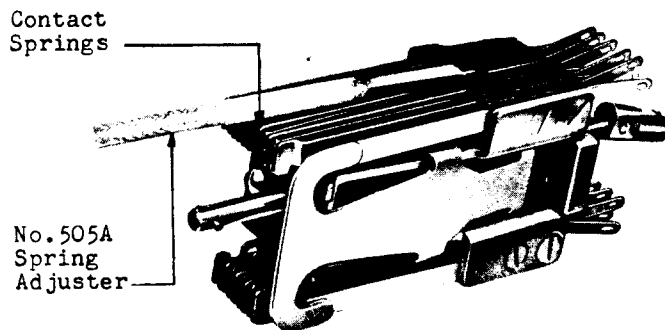
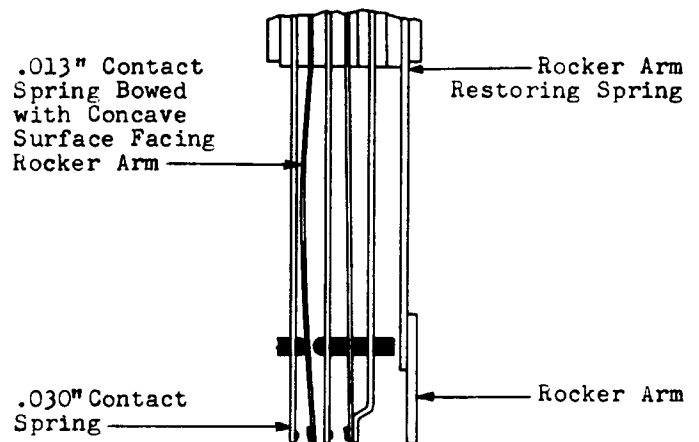

Fig. 9 - Method of Adjusting for Spring Tension
Fig. 10 - Position of Bowed Spring Before Final Tension Adjustment
springs and the No. 507A spring adjuster for the .030" springs. It is especially important to use the No. 505A on .013" springs since the use of any adjuster having a wider slot may result in unsatisfactory adjustment and may affect the adjustment of adjacent springs. Place the spring adjuster on the spring just back of the operating stud and slide it back to the base of the spring as indicated in Fig. 9. Adjust the spring to the right or left as required, exercising care not to disturb adjacent springs. Do not adjust the spring any more than is necessary since repeated adjustment weakens the spring. Take care when adjusting the springs to adjust them in line with their movement and to avoid tilting. Tilted springs cause unequal contact separation of the two pairs of contacts and may result in the failure of one of the contacts of the bifurcated spring to close.
(2) If the desired tension can not be obtained by adjusting as outlined in (1) without bowing the spring beyond its permissible limit or reducing the clearance between the springs below the specified minimum, apply the proper spring adjuster to the spring just back of the operating stud and slide it back to the base of the spring as indicated in Fig. 9. Then draw the adjuster forward the length of the spring meanwhile applying pressure as required so that the spring is formed into a slight gradual bow with the concave surface facing the rocker arm, as indicated in Fig. 10. Then move the adjuster to the base of the spring and adjust as covered in (1). The magnitude of the bow to be formed in the spring must be learned by experience and should be such that when the final tension adjustment is made at the base the spring will be approximately straight.
(3) If the studs touch the springs through which they pass, it is probably due to a twist in the spring to which the stud is attached as a result of adjustment. To correct this apply the proper spring adjuster to the spring at fault and adjust it so that there is required clearance between the stud and the springs.